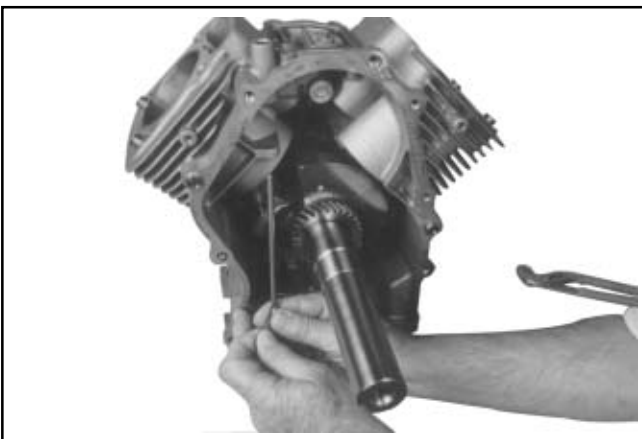

Figure 9-53. Removing Governor Cross Shaft.
2. Remove the cross shaft through the inside of the crankcase. See Figure 9-53.